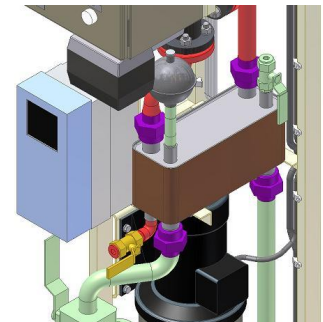

Figure 4.2-3
1. Drain both the primary circuit and the secondary circuit. The secondary circuit is drained through the V163 valve (marked yellow in Figure 4.2-3). The primary circuit is drained through the valves V301 and V302 (refer to the P&ID in Figure 2.2-2).
Disconnect the primary and secondary circuit connections (marked violet in Figure 4.2-3) from the unit. The connections can be opened with a box wrench.